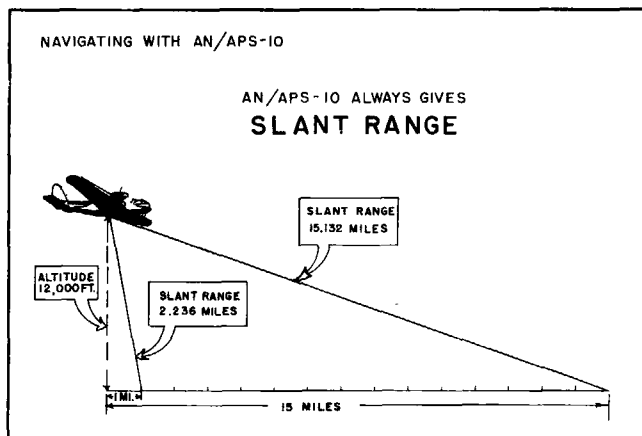

Figure 5-1. Slant Range
f. SLANT RANGE.—The nature of radar is such that ranges are always the distance from the plane to the target, not ground range from a point under the plane to the target. (See figure 5-1.) Whenever the range in miles is less than the altitude in thousands of feet it is important to convert slant range to ground range for accuracy. Refer to the computer chart, figure 5-2.